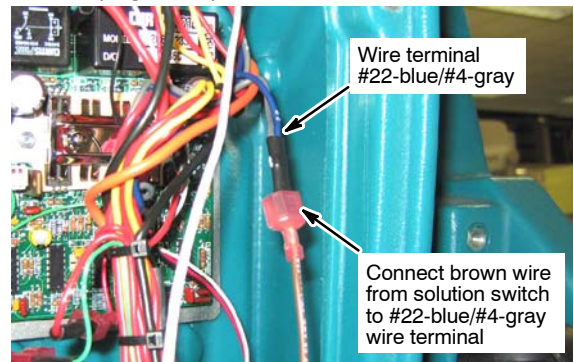

Fig. 4
4. Connect the brown wire from the solution switch to wire terminal #22-blue/#4-gray as shown (Figure 4).